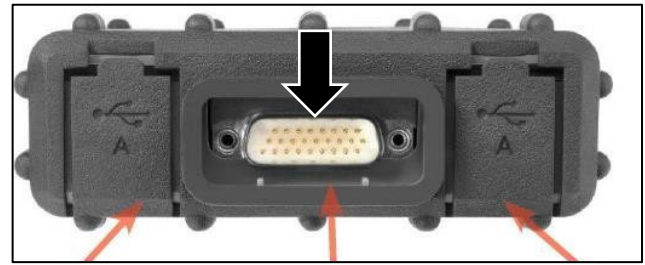

Figure 10
12. Connect the OBD cable to the D-type connector and the vehicle OBD port (refer to Figure 10).